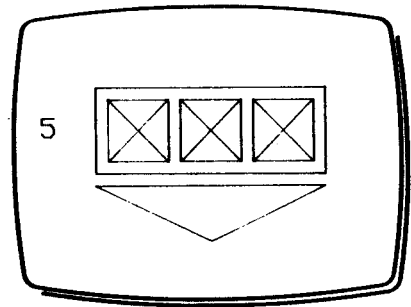

Fig 5
- 6 **Using COPY, check that the composite drawing now uses the modified component (Fig 5).**